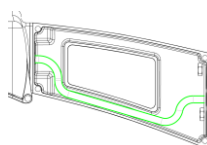

Figure 3
7. Feed the power cable through the middle hole (see Figure 3) and connect the power leads with the included wire nuts as seen below. Black to Black(Hot), White to White(Neutral), Green to Green(Ground).